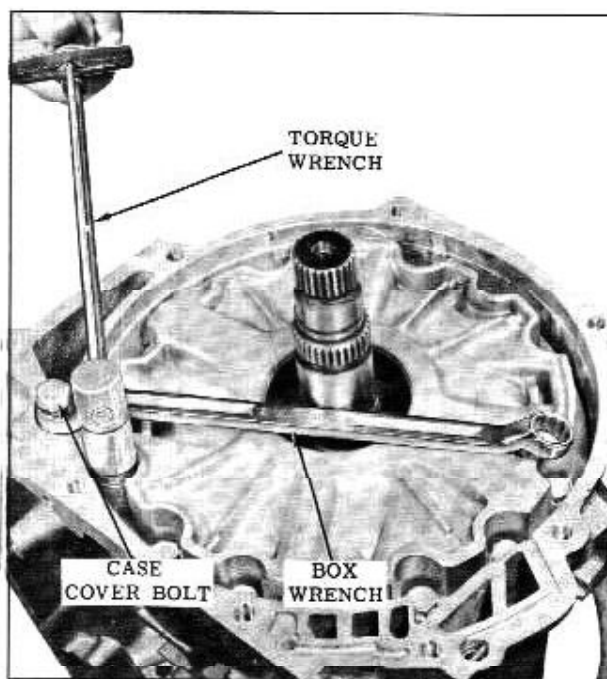

Fig. 3-112 Installing Torus Cover
45. install 12 torus cover attaching bolts and cross tighten the bolts 10-12 ft. lbs. (Fig. 3-112)